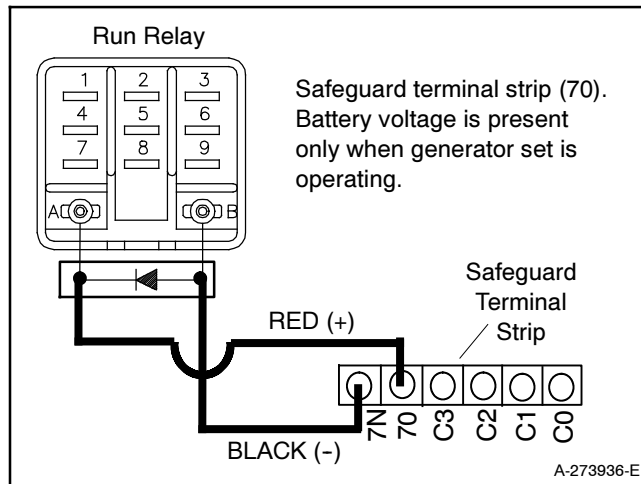

**Figure 3** Run Relay Mounting Details and Position
- 3.3 Mark positions for drilling two holes 63.5 mm (2.5 in.) apart center to center. See Figure 3.